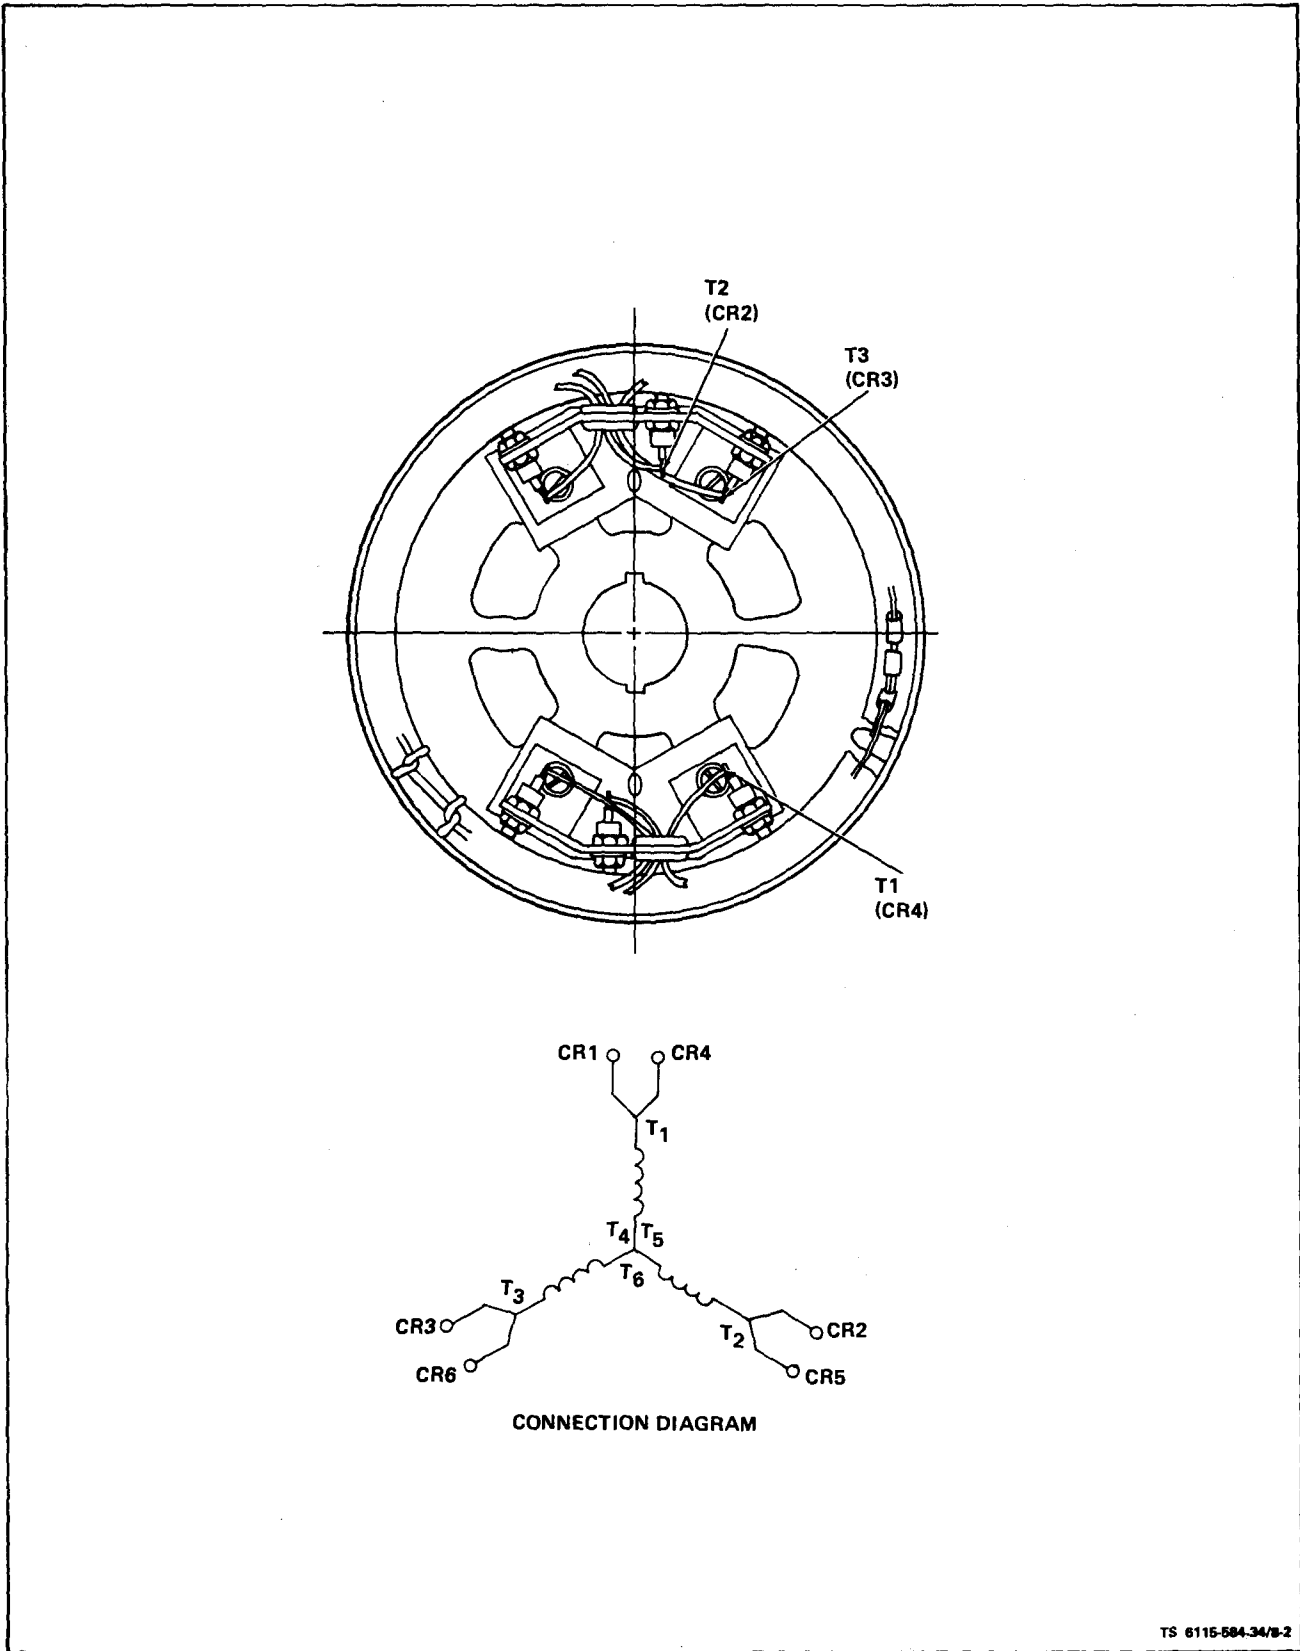
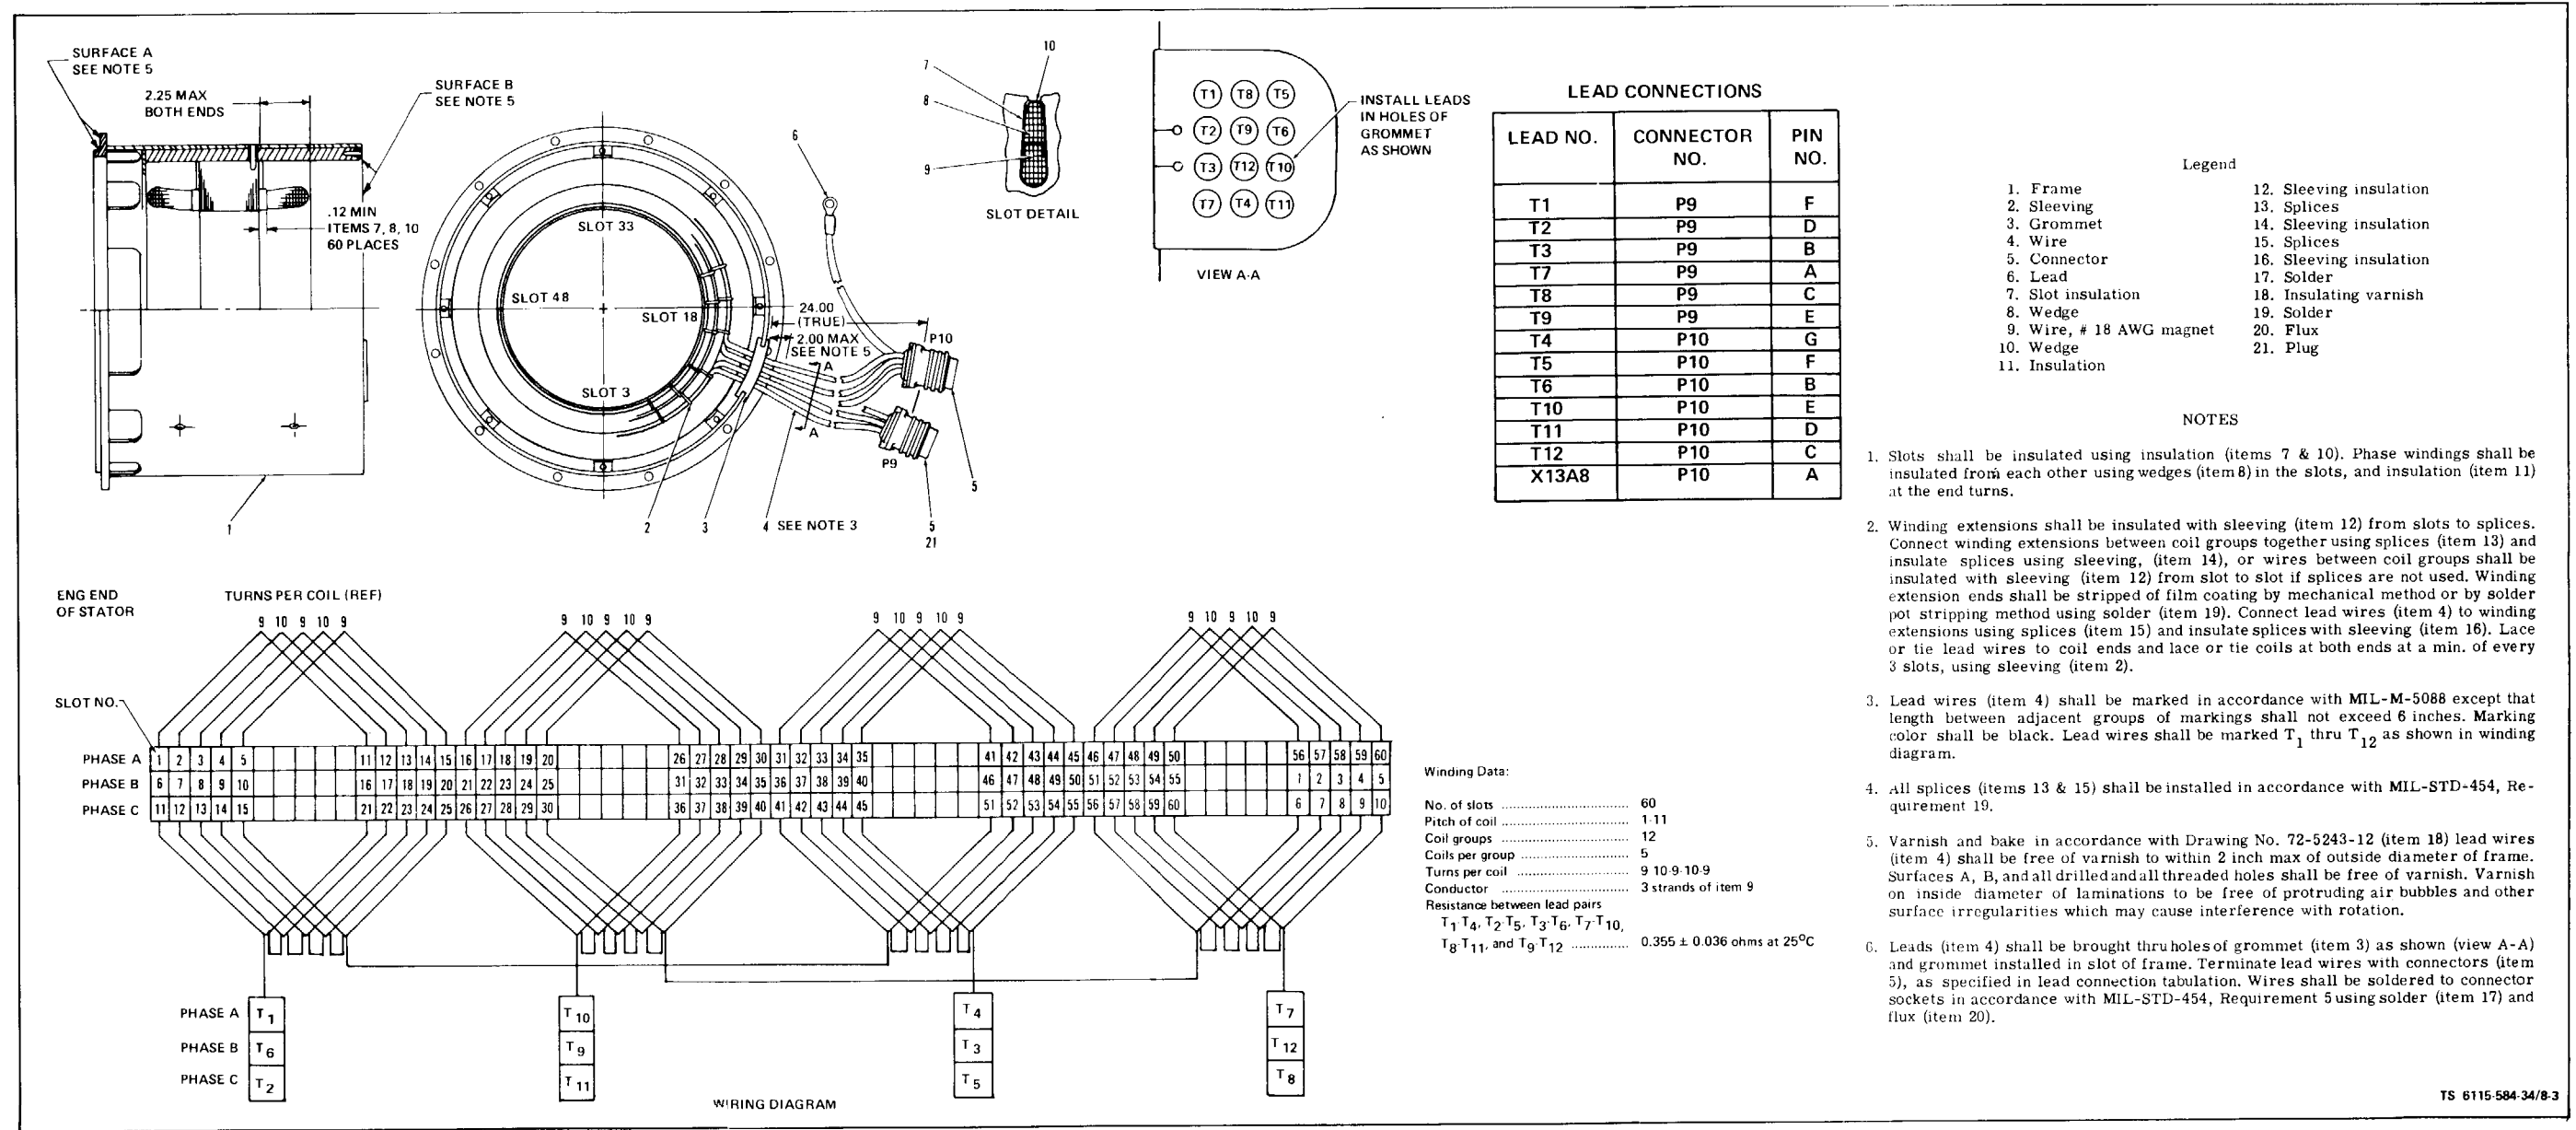

Figure 8-2. Testing Exciter Rotor
Figure 8-3. Generator Frame Assembly Winding Data
(5) Results. Any evidence of insulation breakdown is cause for replacement of the equipment under test.
g. Testing Exciter Rotor. Perform winding resistance test and high potential test per MIL-STD-705A, methods 401.1 and 302.1. Test between  $T_1-T_2$ ,  $T_2-T_3$ ,  $T_1-T_3$ . See figure 8-2 for location of test points. Resistance for each winding should be 0.677 ohms  $\pm$  0.067 ohms. Also test for shorts between windings and between each winding and rotor core.
(1) High Potential Test. Test generator stator as given in paragraph 8-2e of this manual. Replace stator having faulty insulation.
(2) Winding Resistance Test. Perform winding resistance test using a Kelvin bridge. Follow the manufacturer's instructions given on the bridge. Resistance readings should be made on the pins of P9 and P10 (see figure 8-3). Resistance between lead pairs  $T_1-T_4$ ,  $T_2-T_5$ ,  $T_3-T_6$ ,  $T_7-T_{10}$ ,  $T_8-T_{11}$  and  $T_9-T_{12}$  should be 0.355  $\pm$  0.036 ohms at 77°F (25°C). Refer to the table in figure 8-3 for location of the terminals. Also check resistance between each pin A through F of P9 and P10 and the stator frame. Low resistance indicates a shorted stator.
(1) Generator frame assembly (see figure 8-3).